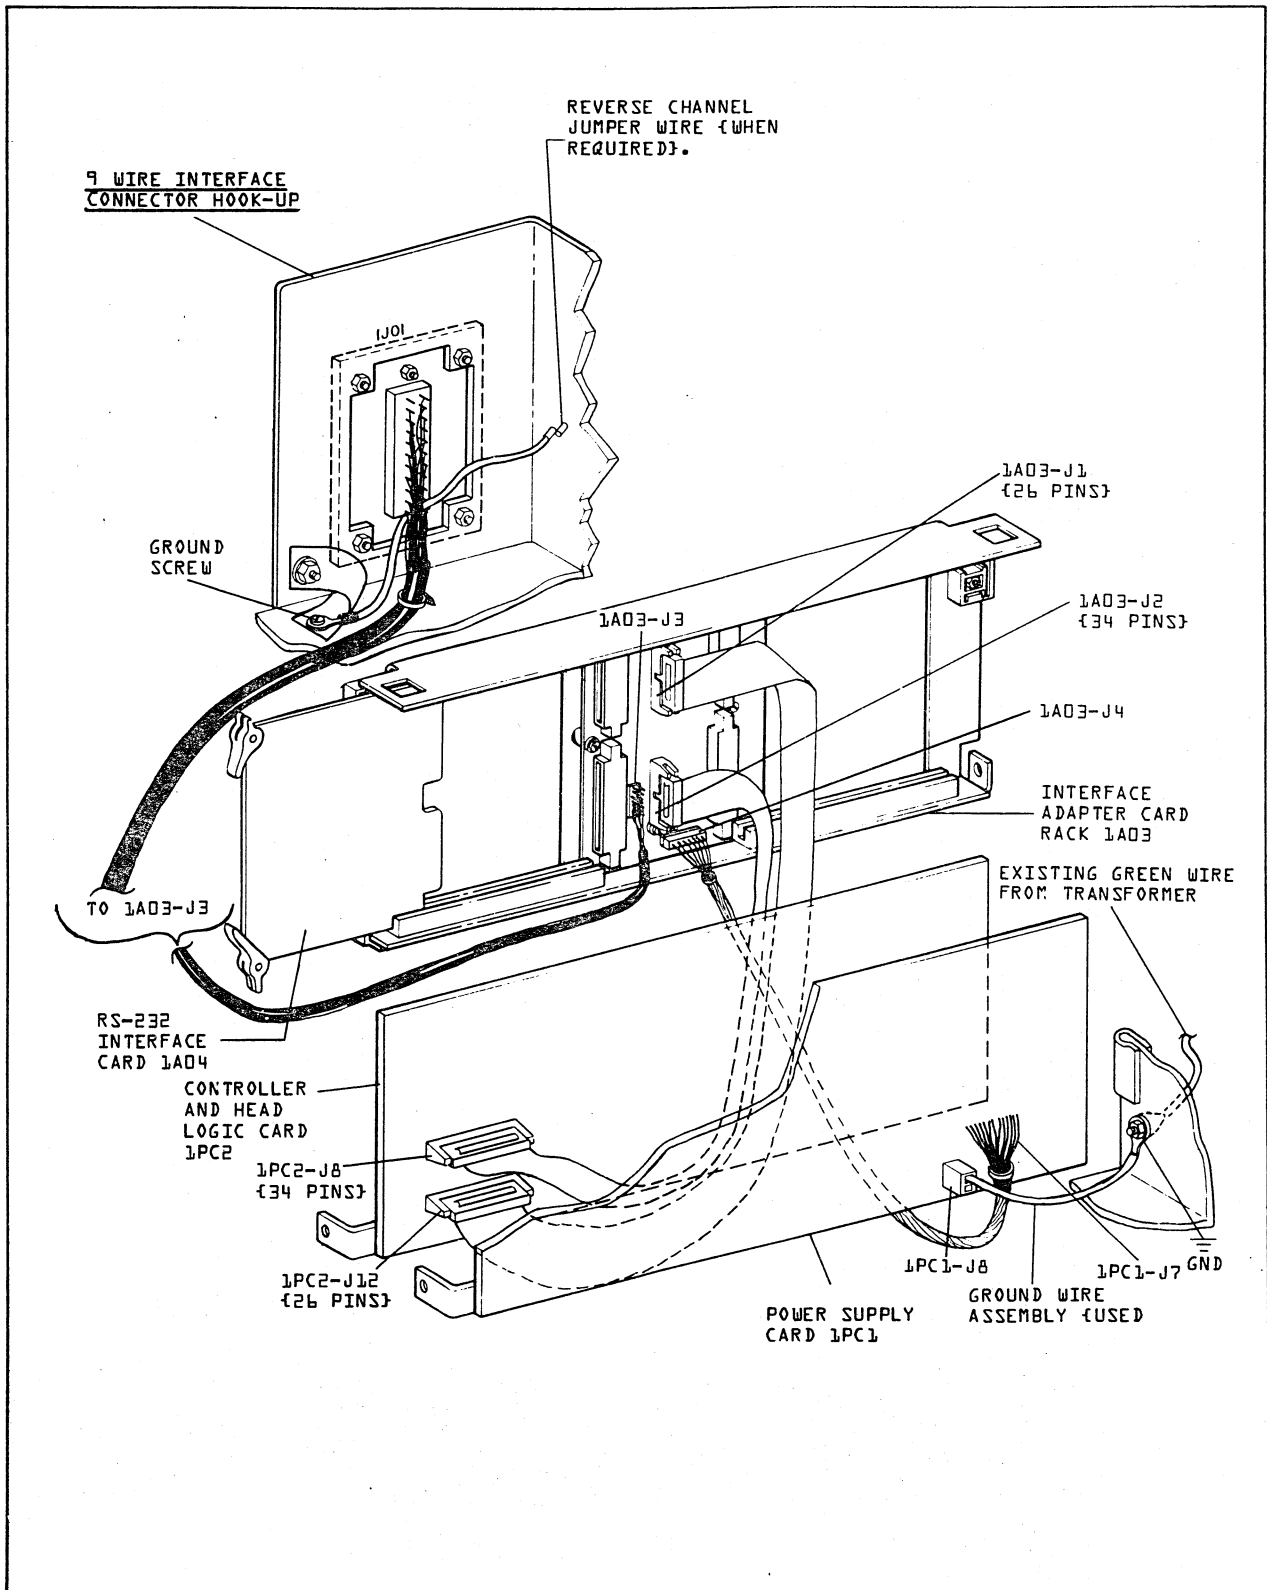

FIGURE 2-4 INTERFACE INSTALLATION
13. Fasten the 9 wire interface connector mounting plate to the outside of the interface mounting plate bracket at the left rear corner of the printer (Figure 2-4). Use the existing interface plate mounting hardware.
A. Make the following connections from interface connector 1J01 to the interface Adapter Rack Card in card location 1A03 (Figure 2-4):
B. Connect the protective ground wire from 1J01-1 to the grounding screw in the printer base plate (Figure 2-4).
C. A Reverse Channel Jumper Wire Assembly is provided in this kit. The field engineer must check the modem or data source to see what I/O pin Reverse Channel is on. If Reverse Channel from the data source is other than 1J01-11, attach this jumper from 1J01-11 to the 1J01 pin required (Figure 2-4).
15. Connect the DC power to interface harness assembly to the interface adapter card 1A03-J4. This harness is not part of this kit, but comes as standard equipment on the Power Supply Card. Route the harness as shown in Figure 2-4 and plug its connector into 1A03-J4. This plug is polarized and will only go on in one direction.
16. A Ground Wire Assembly is provided in this kit. Connect the ring terminal end of the ground wire to the ground screw in the right rear corner of the print head structure (Figure 2-4). This is the same screw that is used to ground the green wire from the transformer. Connect the other end of the ground wire assembly by inserting the terminal into the mating connector of J8 on the power supply board in card location 1PC1 (Figure 2-4).
Connect the 34 pin ribbon cable from 1PC2-J8 to 1A03-J2 (Figure 2-4). Connect the 26 pin ribbon cable from 1PC2-J12 to 1A03-J1 (Figure 2-4). Pin 1 on all connectors is identified by an arrow.
Install the RS-232 Interface Board in the Interface Adapter Card Rack card location 1A04 and insure that the board is properly seated (Figure 2-4).